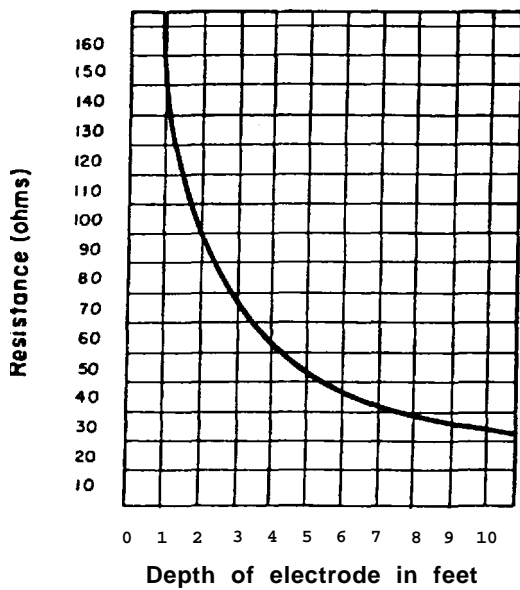

Figure 14-7. Soil resistance vs. depth of electrode.
c. *Grounding system.* As the grounding electrode is placed further into the earth the ground resistance decreases (fig 14-7), and there is less resistance change due to temperature and moisture variations. Changing the diameter of the electrode has little effect on ground resistance. An electrode (fig 148) is pictured surrounded by hemispheres of equal thickness and composed of the same type of soil. Each additional hemisphere away from the electrode increases in area. As the hemisphere's area increases, the resistance decreases- In effect, the earth resistance is the sum of all the hemisphere resistances. A point will be reached where the addition of new hemispheres will not effectively change the total resistance. This will be the value of the earth resistance.